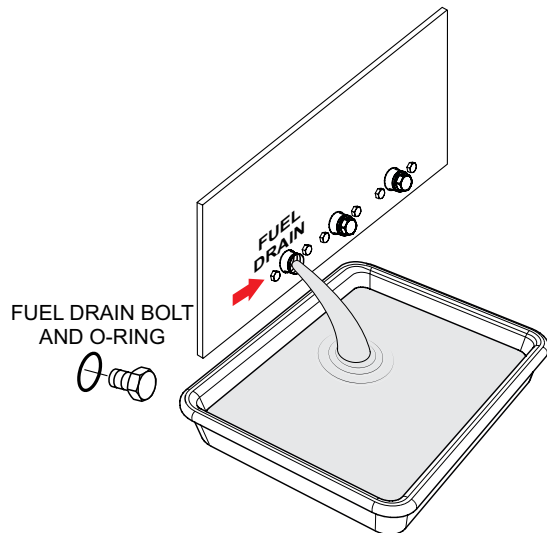

Figure 59. Draining Fuel Tank
2. If water contamination is present within the fuel tank, remove the fuel tank drain bolt and o-ring (Figure 59), then allow the fuel to drain into a suitable container.